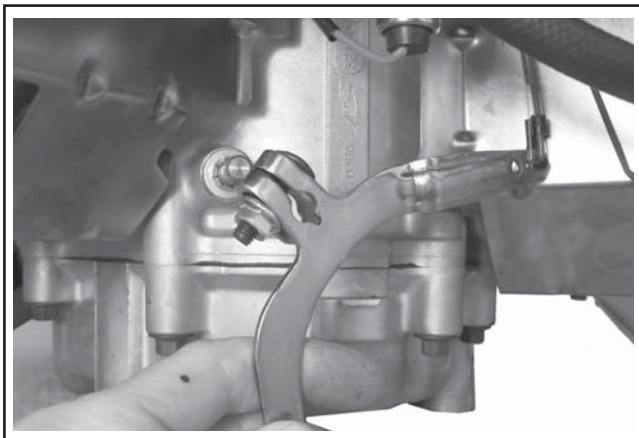

Figure 8-13. Removing Governor Lever.
1. Loosen the hex flange nut and remove the governor lever from the cross shaft. See Figure 8-13. Leave the lever attached to the throttle linkage.